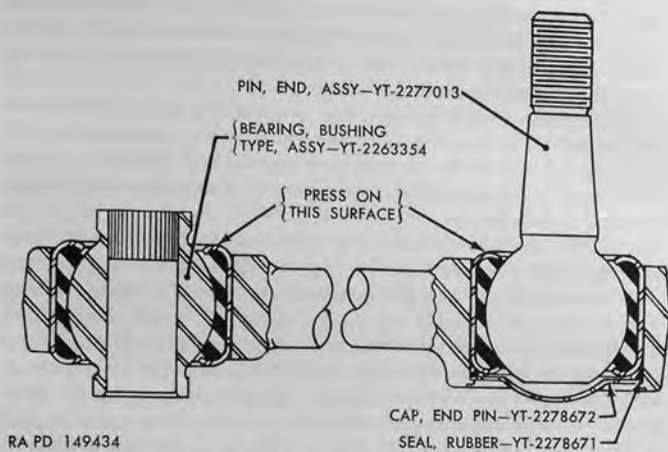

Figure 207. Sectional views of front torque rod ends.
a. Bearing Removal.—Using a driver to exert force on rounded edge of bearing case at point shown in figure 207, press bushing type bearing assembly out of torque rod end.
b. Bearing Installation.—Press new bushing type bearing assembly into torque rod end, using a driver which will exert force on rounded edge of bearing case at point shown in figure 207. Press bearing in until it is centered in torque rod end.
c. End Pin Removal.—Using a small sharp chisel, cut off eight staked lugs which secure end pin cap in torque rod end. Using a driver over end pin which will exert force on rounded edge of bearing case at point shown in figure 207, press end pin assembly, rubber seal, and end pin dust cap out of torque rod end. File stake marks back flush with inner circumference of torque rod end.
d. End Pin Installation.—End pin assembly (fig. 207) must be installed in torque rod end with tapered end pin opposite the side having the stake marks. Press new end pin assembly into torque rod end, using a driver over end pin which will exert force on rounded edge of bearing case at point shown in figure 207. Press in to approximate position shown in figure 207; then install rubber seal and end pin cap and secure in place by staking at eight places. Press end pin assembly in further to compress rubber seal between bearing case and end pin cap, using care not to force cap past the stake marks.